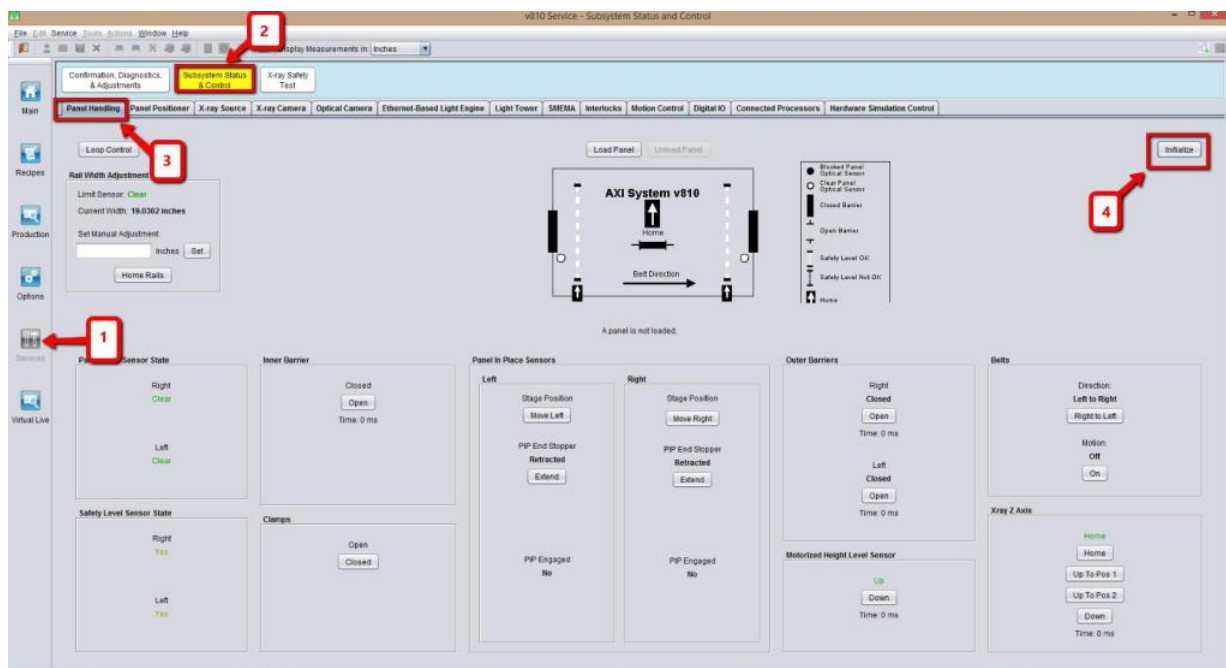

Figure 14 Panel Handling
- Go to Services -> Subsystem Status & Control -> Panel Handling and click Initialize as shown in the Figure 14